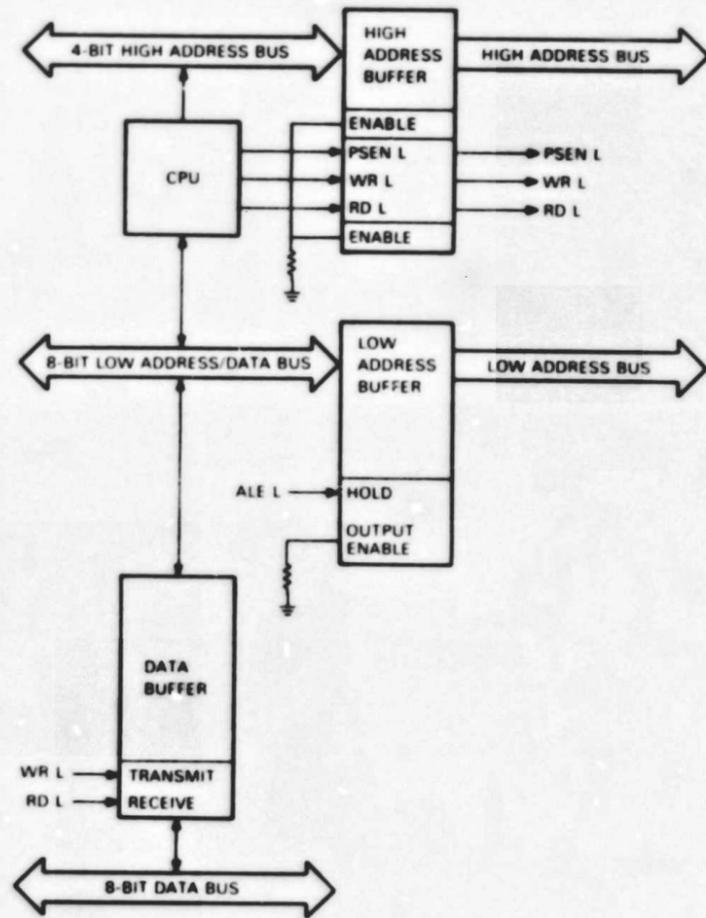

Figure 2-8 System Block Diagram with Buses and Buffers
Figure 2-8 shows the three buffers with the buses. Refer to this figure for the following discussion.
**2.3.3.1 High Address Buffer (Figure 2-8)** – This buffer is a dual 4-bit octal buffer. The CPU uses this buffer to drive the high address and three control signals to additional devices since the CPU cannot drive more than one TTL device. Since the chip enable circuits are tied low by a grounded resistor (soft ground), the signals are sent through this buffer as soon as they are emitted from port 2 on the CPU. The signals from the CPU on the high address bus are a 4-bit byte that uses half of the buffer. The other half drives the PSEN signal, the RD (read) signal, and the WR (write) signal. These signals are also sent through the buffer as soon as they are emitted from the CPU.